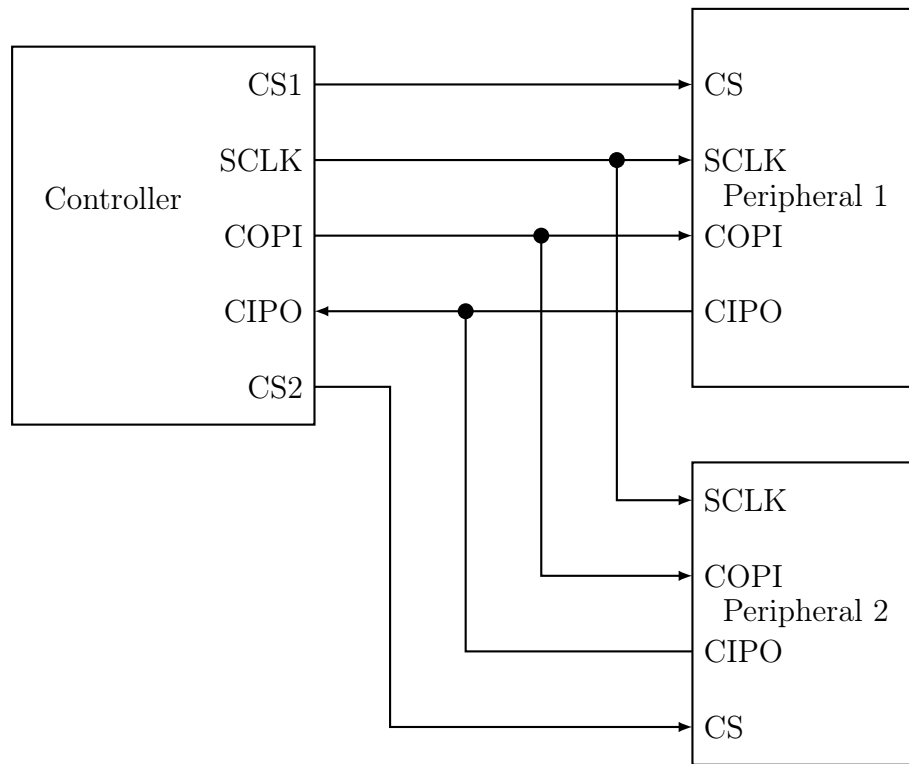

Figure 6.6: SPI allows for one (sometime more) controller and multiple peripherals.
The Serial Peripheral Interface (SPI) is a full-duplex serial interface shown in Figure 6.6. It is setup in a controller-peripheral (previously known as master-slave) architecture with only one controller on the bus. It does allow for multiple peripherals by giving each peripheral its own chip select (CS) line. Since it is synchronous, it does require a clock line. This means that it takes a minimum of 4 wires as listed in Table 6.2. The SCLK signal is the clock signal used by both the controller and peripheral. There is one CS line per peripheral. The CS line lets the controller specify which peripheral it is communicating with. The COPI line is the data going from the controller to the peripheral. The CIPO line is the data going from the peripheral to the controller.